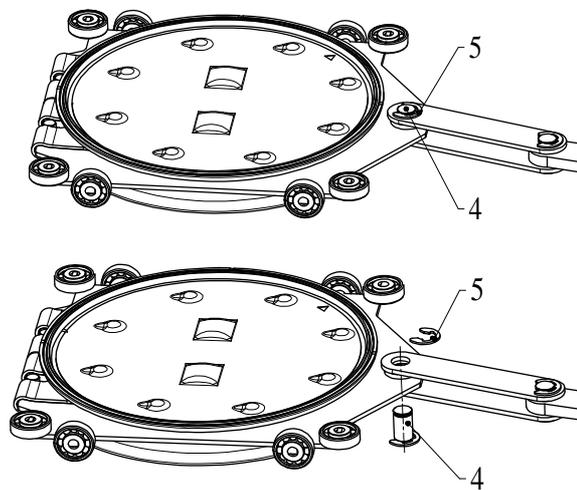

Figure 6-2
9. Remove locking ring (5) according to «Figure 6-2» on page 17.
10. Withdraw bolt (4) by pulling it downwards according to «Figure 6-2» on page 17.
16. Mount bolt (4) according to «Figure 6-2» on page 17.
17. Mount locking ring (5) according to «Figure 6-2» on page 17.